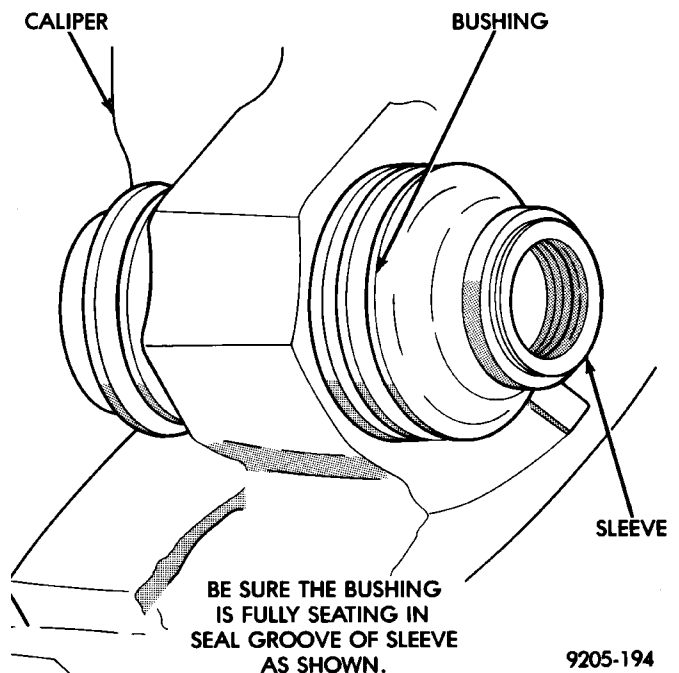

Fig. 174 Correctly Installed Caliper Sleeve And Bushing
(7) Holding sleeve in place, work other end of bushing over end of sleeve and into the seal groove on sleeve (Fig. 174). Be sure other end of bushing did not come out of seal groove in sleeve.